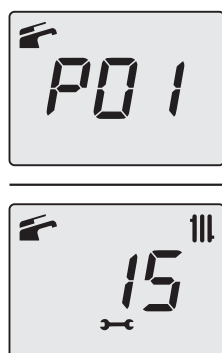

Figure 7.8
- 5 To enter the selected parameter press key "B" (Figure 7.4) for 1 second. The display will show the following (Figure 7.8).